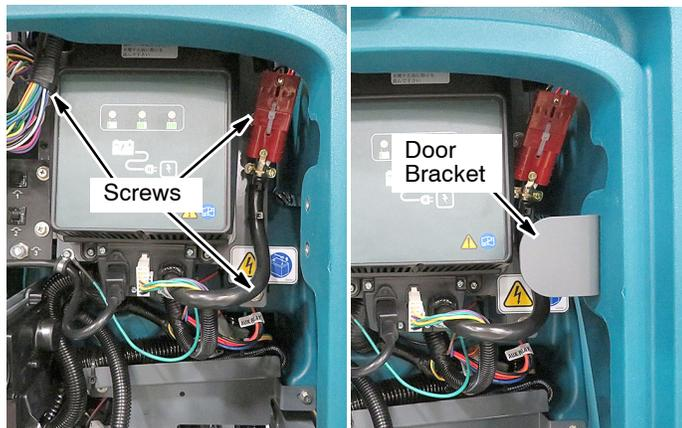

Fig. 12
- Reinstall the battery charger panel and replace the door bracket (Figure 12).